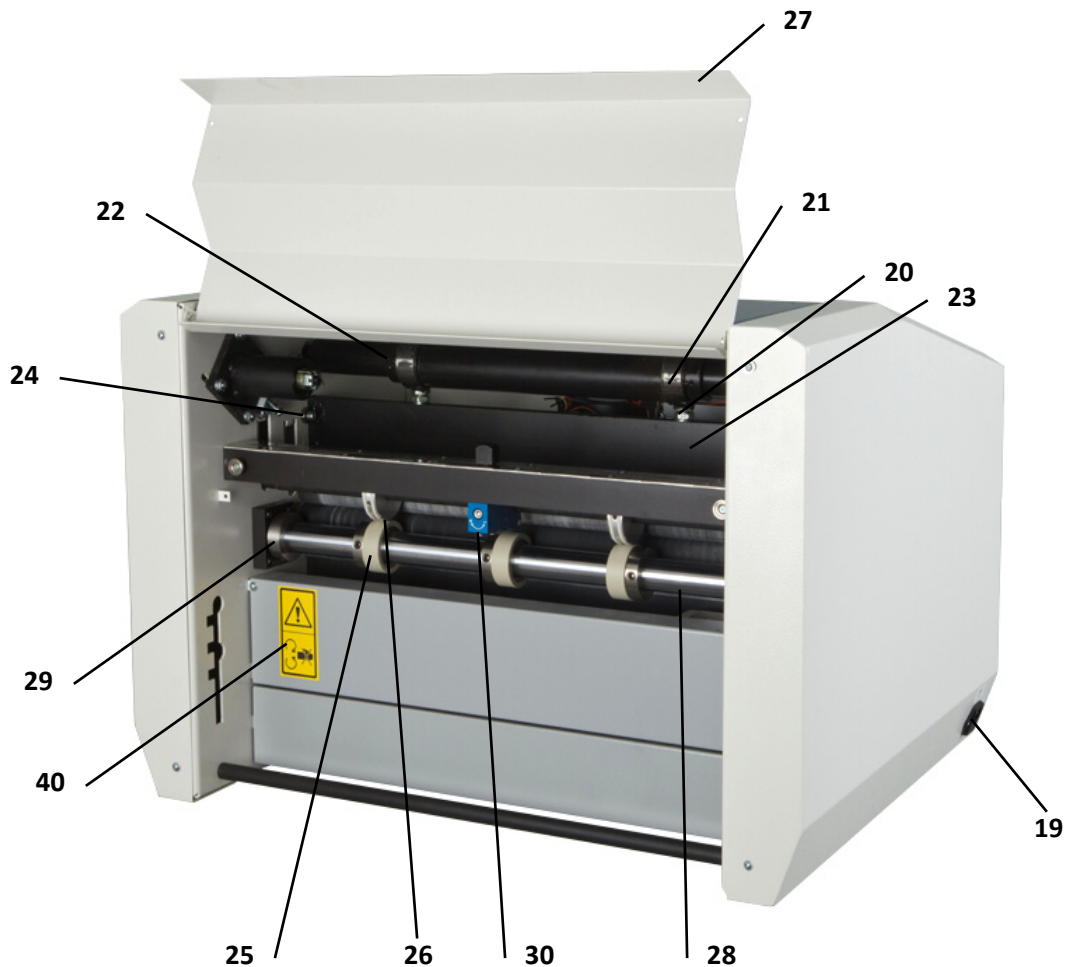

Fig. 2: Rear View of the Machine
| 6 – Rear side guide | 19 – Plug socket (Fig. 2) |
| 7 – Delivery table | 20 – Tool thrust regulation screw (Fig. 2) |
Alternatively, you may remove the whole shaft (28) and add or remove pulleys as required. In order to remove the shaft, use an Allen key to loosen the screw on the fixing sleeve (29 – Fig. 2) and push the sleeve aside. Then move the whole shaft to the left (in the direction of the side of the machine) and remove the shaft from the machine. Before you do so, make sure the perforating (cutting) wheels are placed in the non-working position!!!